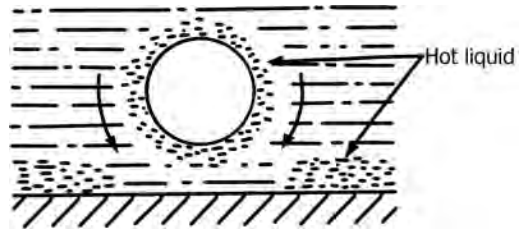

FIGURE 9.13 Vapor-liquid exchange.
- *Vapor-Liquid Exchange*: The wakes of departing bubbles remove the thermal boundary layer from the heated surface and create a cyclic thermal boundary layer stripping process. Sensible heat is transported away in the form of superheated liquid, whose rate of removal is proportional to the thickness of the layer, its mean temperature, the area of the boundary layer removed by a departing bubble, the bubble departure frequency and the density of active boiling sites. Figure 9.13 illustrates vapor-liquid exchange.